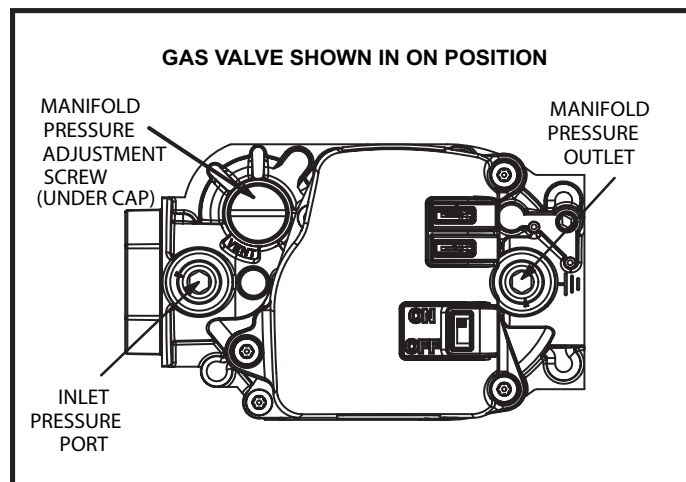

Figure 57
Gas Valve Operation (Figure 57)
6. Move gas valve switch to **OFF**. See Figure 57.
8. Move gas valve switch to **ON**. See Figure 57.